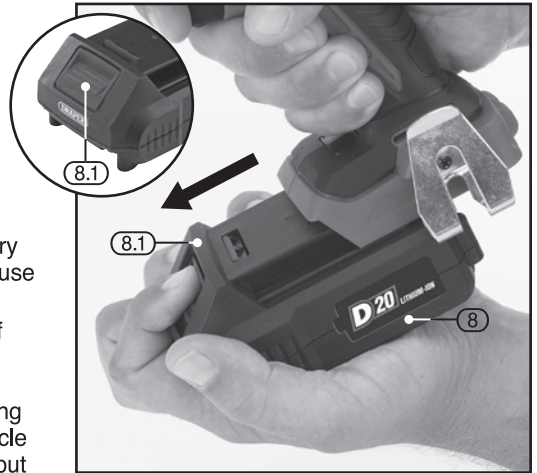

FIG.1
### 8.1 BATTERY PACK CHARGING – FIGS. 1 – 2
- Press the battery release button (8.1) and gently slide the battery pack off (Fig.1).
- Plug the battery charger (7) unit into a 230V/AC 13amp three pin supply socket.